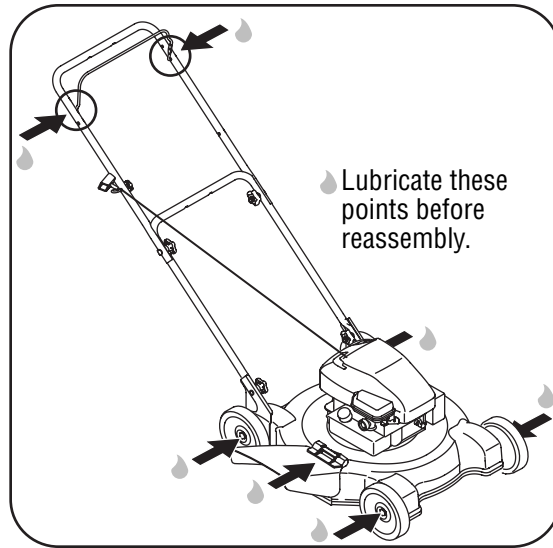

Figure 5-1
1. Lubricate pivot points on the blade control at least once a season with light oil. The blade control must operate freely in both directions. See Figure 5-1.
2. Lubricate the wheels at least once a season with light oil (or motor oil). If wheels are removed for any reason, lubricate surface of the axle bolt and inner surface of the wheel with light oil. See Figure 5-1.
3. Lubricate the torsion spring and pivot point on the chute deflector periodically with light oil to prevent rust. See Figure 5-1.